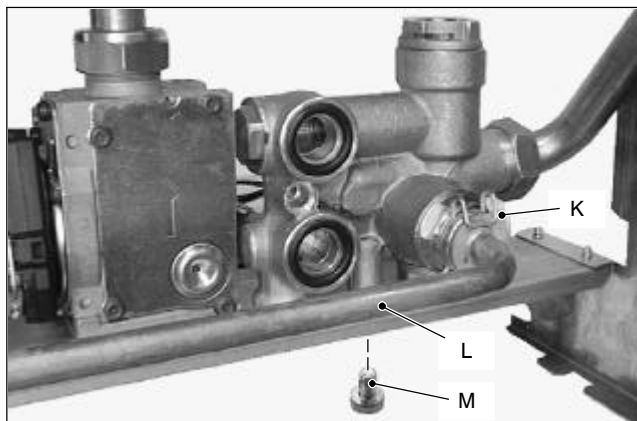

Fig. 26 Rear view of the boiler
- 8 Remove the fork *K* and move away the pipe *L* (Fig. 26).